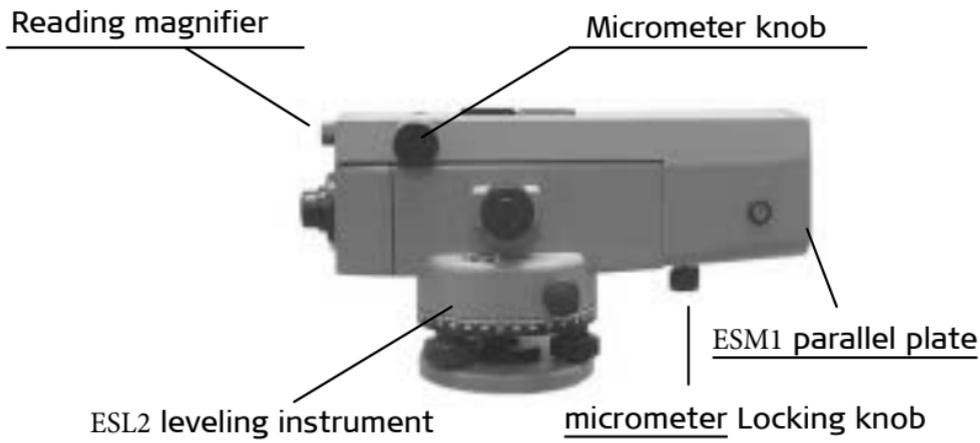

Fig.3
3. Take the nearest whole centimeter value from the graduation below the horizontal cross hair (114cm) and estimate the millimeters within the centimeter interval cut by the cross hair (3mm). The reading in fig.3 is therefore 1.143m. For line leveling of high accuracy, and as a check against gross error, the staff readings of the cross hair and both stadia hairs should be taken (the 3 wire method). The mean of the two stadia readings serves as a check on the middle cross hair reading.
To obtain the distance, the readings of the upper (A1) and lower (A2) stadia hairs are used. The difference between the two readings multiplied by 100 gives the horizontal distance from instrument to the staff (see fig.3)
### 6.3 Precise Height Measurement with ESM1 (fig.3)